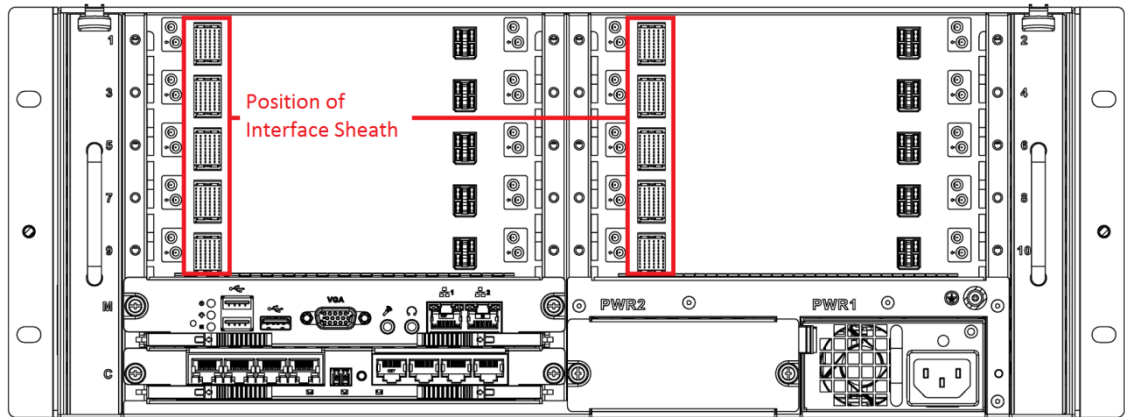

Figure 1-5
**Step 1** Remove interface sheath on rear panel of the case, as shown in Figure 1-5.